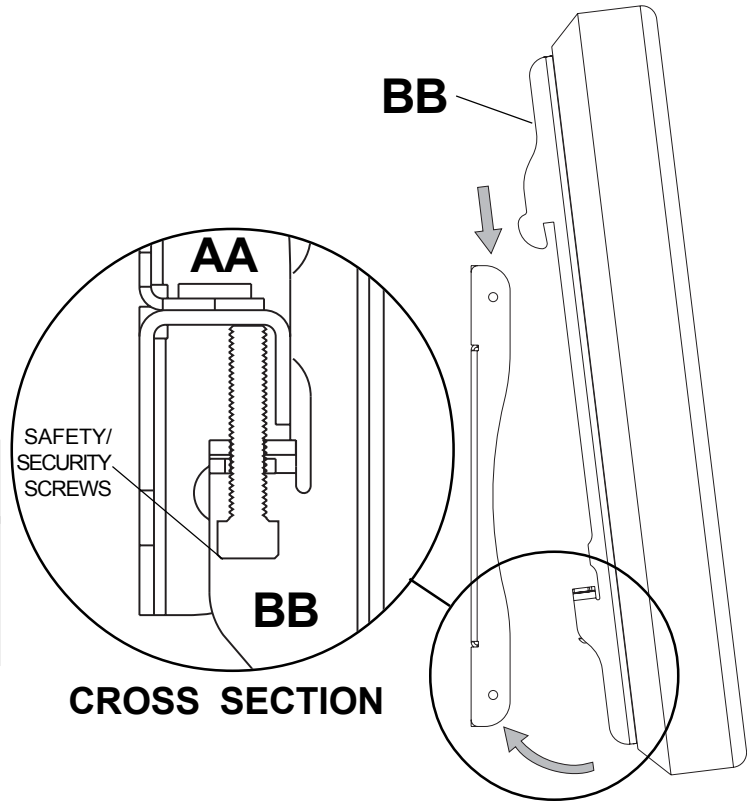
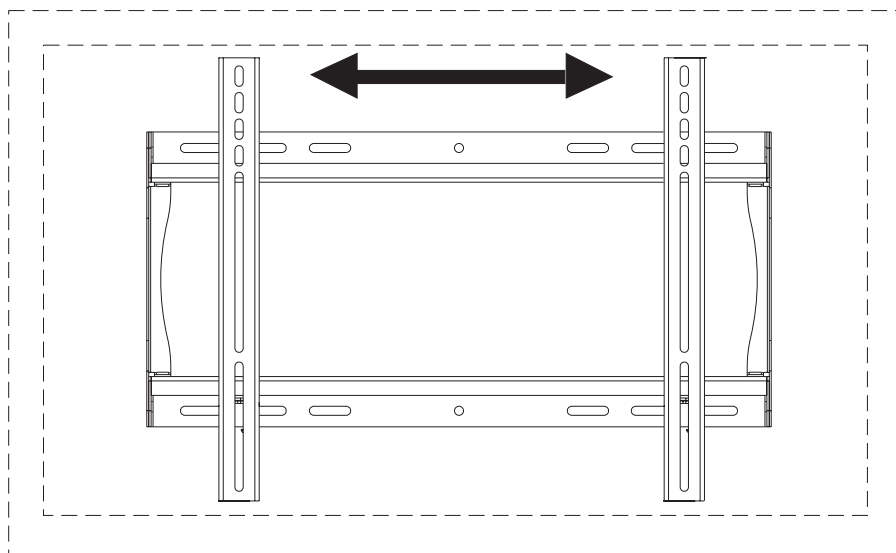

fig 3.1
fig 3.2
- 3** Hook adapter brackets (**BB**) onto wall plate (**AA**). Then slowly swing screen in as shown. Turn safety/security screws, using security allen wrench (**EE**), clockwise at least six times to prevent screen from being removed as shown in cross section of fig. 3.1. Screen can be adjusted horizontally if desired as shown in figure 3.2.